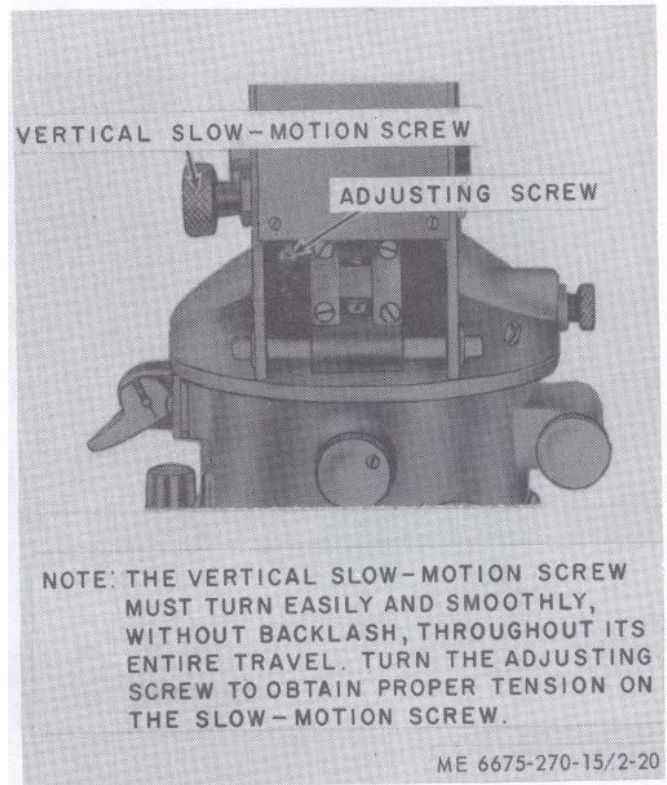

Figure 2-20. Vertical slow-motion screw adjustment.
e. *Vertical Slow-Motion Screw.* Refer to figure 2-20 and adjust the vertical slow-motion screw.